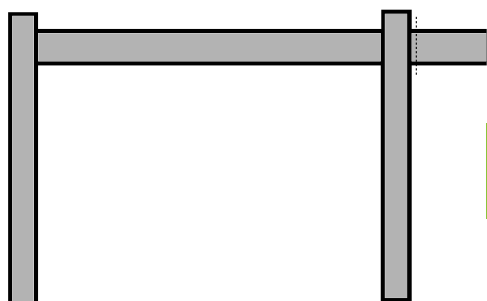

Fig. 7
2. Mark each assembled rail for length by pushing them against one post of each section and then mark the outside of the opposite post. Cut each rail $\frac{1}{4}$ " shorter than the mark to allow for expansion (see Fig. 7).